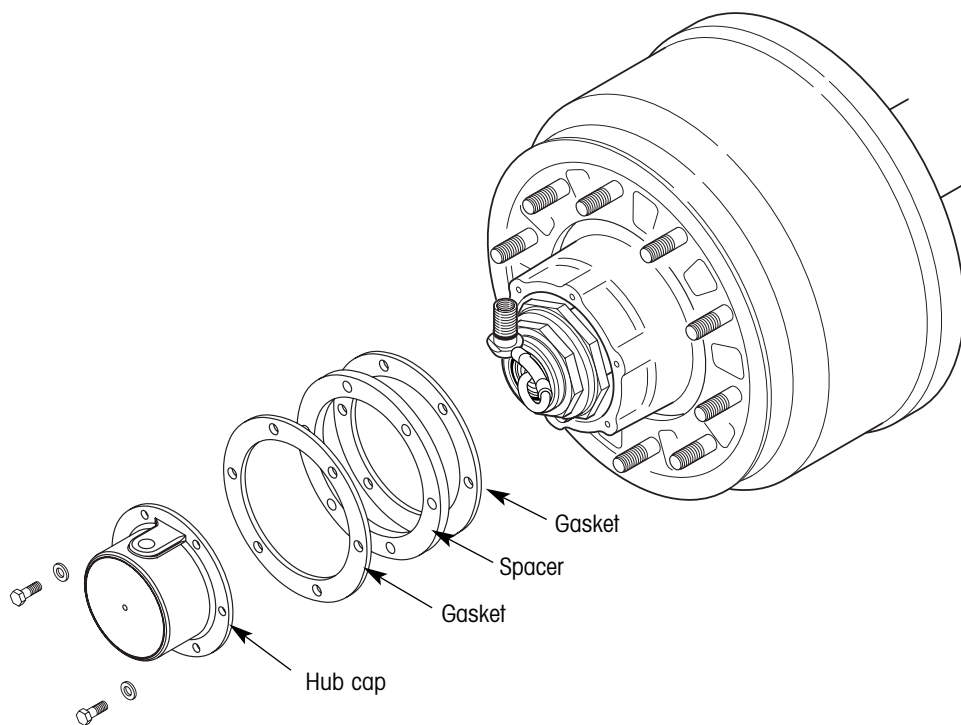

Figure 12. Hubcap spacer kit installation
1. Sandwich the spacer between two gaskets as shown in figure 12.